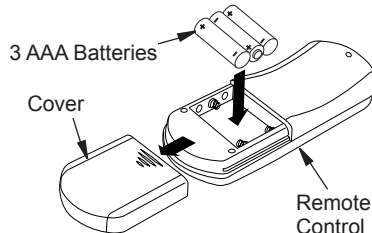

Figure 30 - Installing Batteries in Remote Control
- Remove remote cover (see Figure 30).
- Insert 3 AAA batteries into remote control (see Figure 30). Positive and negative are marked inside remote control casing. *Note:* Remote will not function if batteries are not installed correctly.